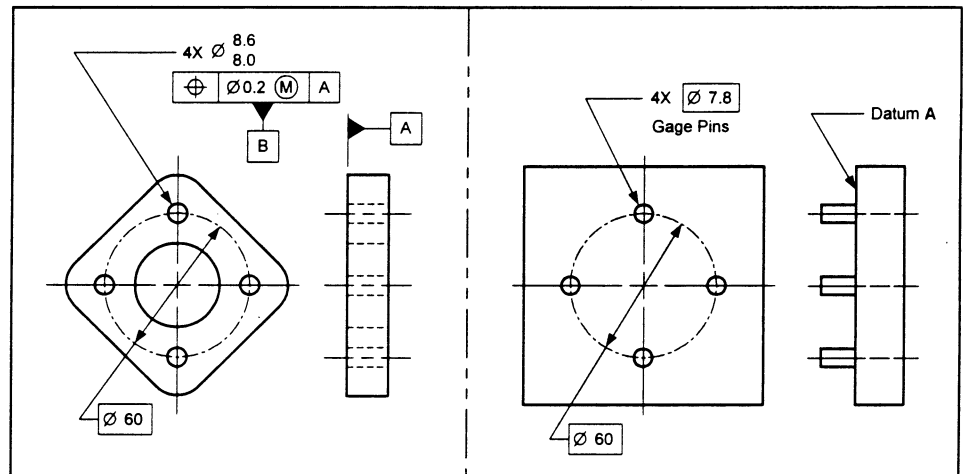

FIGURE 21-8 TOP with a Single Datum Reference Applied to a Hole Pattern
Figure 21-8 is a partial drawing. A relationship between the outside edges of the part and the four holes needs to be established.
In certain cases, it may be desired to control only the spacing and orientation of holes in a pattern. This can be accomplished by using a TOP control with a single datum reference. Figure 21-8 shows an example. In this figure, the TOP control limits the spacing between the holes and the squareness of the holes relative to datum plane *A*, but the TOP control does not control the location of the hole pattern. Notice the gage has only one datum simulator for datum *A*. The four gage pins limit the perpendicularity and spacing of the holes.
1. When the hole pattern is used as a datum feature, and only the spacing and perpendicularity need to be defined, as shown in Figure 21-8.